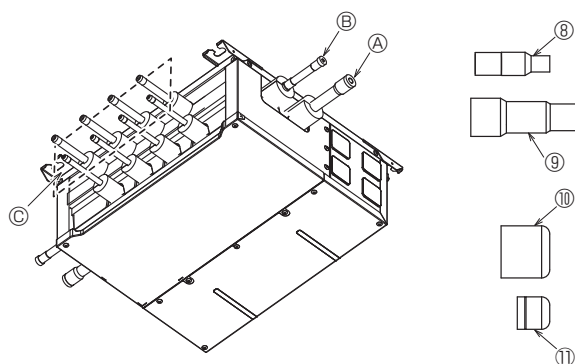

Fig. 6-3
- (1) Remove the rubber caps from the outdoor unit side connection pipe ④ and ⑤.
- (2) After brazing ⑧ to the liquid pipe side and ⑨ to the gas pipe of the refrigerant pipe ⑩ connected to the outdoor unit side, braze the branch box to connect. (Fig. 6-3, 6-4)